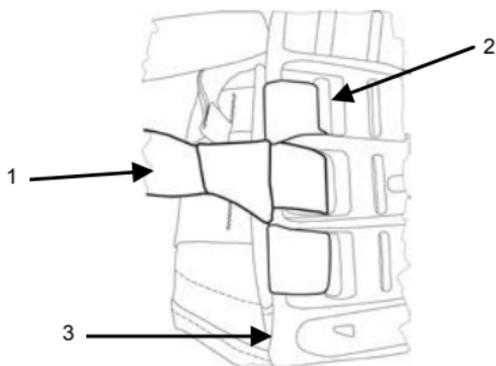

Figure 8. Routing Straps through Frame.
1. Secure four horizontal attachment straps (Figure 8, Item 1) through their corresponding slots (Figure 8, Item 2) on the frame (Figure 8, Item 3).